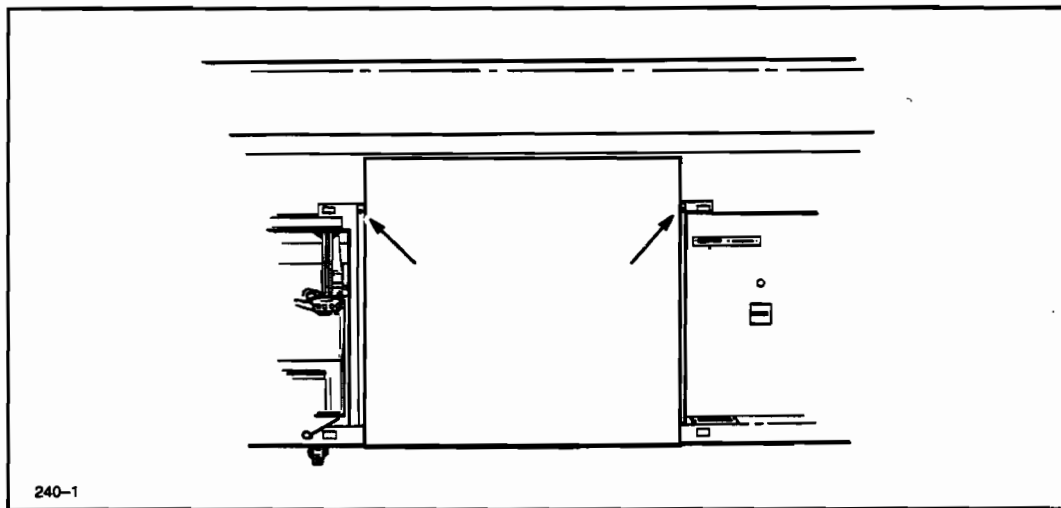

Figure 6-6. Center Cover Removal
3. Using a #2 Phillips screwdriver, remove the two center cover mounting screws. See Figure 6-6..